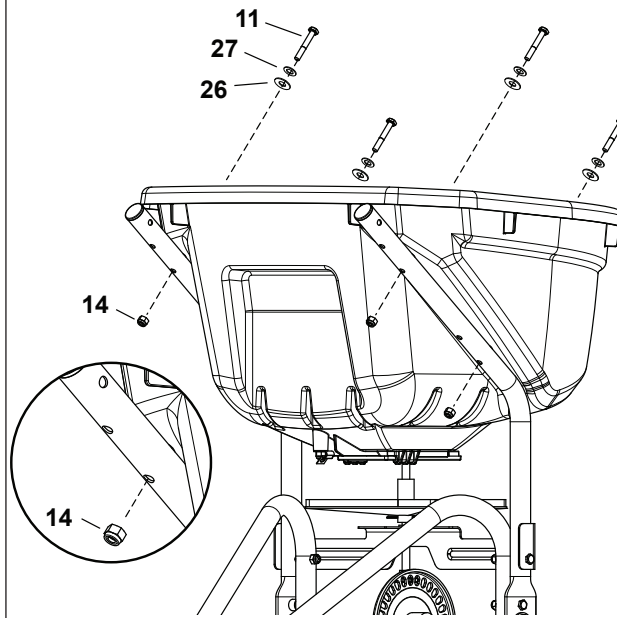

Figure 8
STEP 8: (SEE FIGURE 8)
- Attach the hopper to the lower set of holes in the hopper support tubes using four 1/4" x 1-3/4" hex bolts (11), 1/4" washers (27), nylon washers (26) and 1/4" nylock nuts (14). **Make only finger tight.**